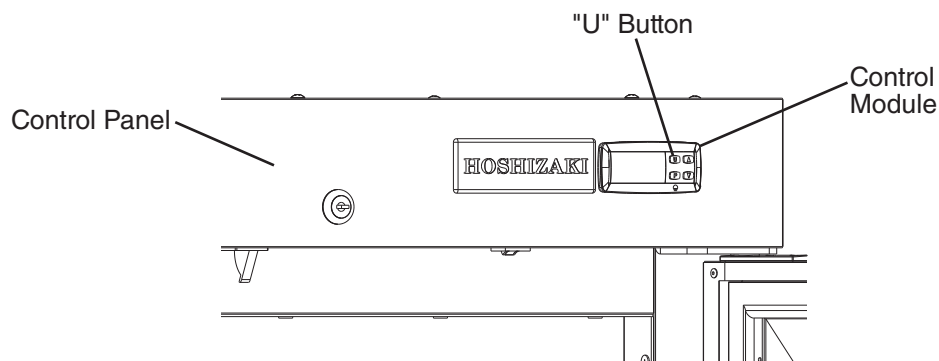

Fig. 3
- 2) If the cabinet temperature is not displayed on the control module, press and hold the "U" button (on/off button) for 1 sec. See Fig. 3.